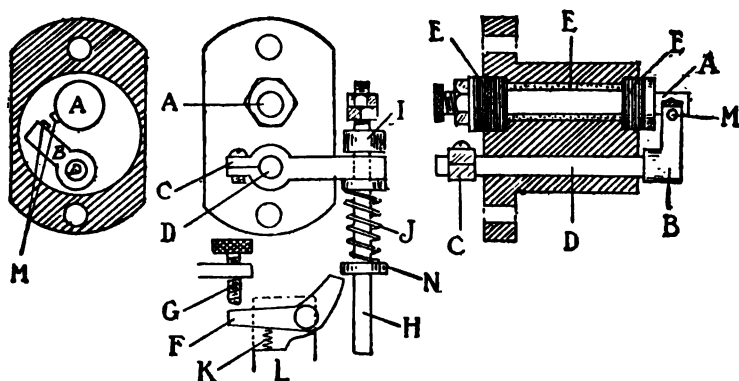

Fig. 8
This is a system of ignition used more often on marine or stationary motors than on motor-vehicles, but several automobile manufacturers still use it, and formerly many of the best and most reliable cars were equipped with it. There are many variations in make-and-break appliances, but in all the operation is very similar. A common and simple form is shown in Fig. 8. This apparatus consists of two portions, one part being outside of the cylinder and the other inside; the shaded cuts represent the internal parts and the outline cuts the external parts. The latter consist of a stationary rod, or electrode, of metal (A), which is insulated from the cylinder through which it passes by the mica washers E, E, and to the outer terminal of which one of the coil-wires is attached, the other wire being grounded on the engine. Just below this electrode is a movable rod